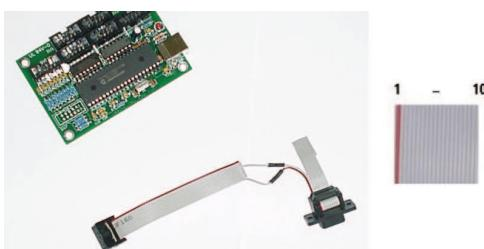

Figure 11.4: Attach ribbon wire 4 and 10 (ribbon connector side, left on this figure) to ribbon wire 1 and 2 (SUB-D side, right on this figure)
- From the SUB D connector piece, strip the cable which is attached to pin 1 and 2 of the ribbon cable (this is the RED cable and the cable adjacent to the RED cable; see Figure 11.4)